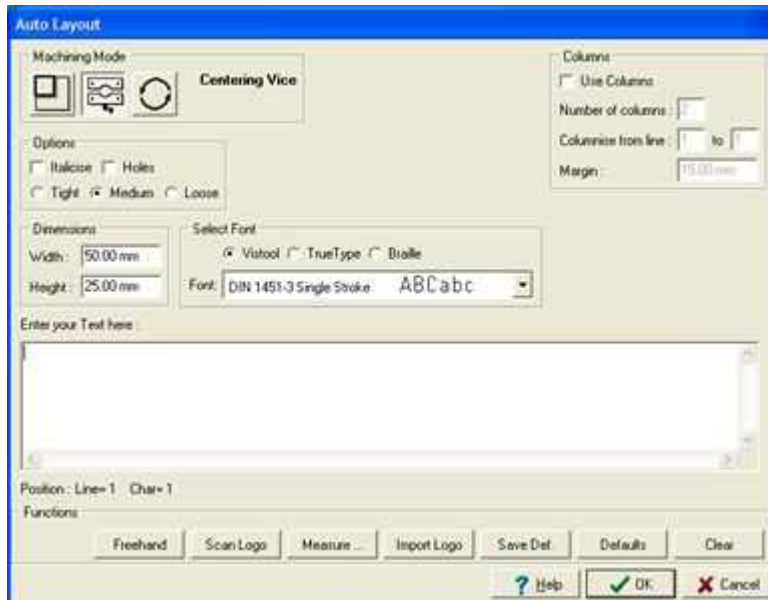

Figure 1 This Dialogue Box may vary slightly depending on the model and options installed on your machine.
You will now see the Opening Form Dialogue Box. Left click on "Auto Layout". The Auto Layout screen will be shown (see Figure 1).
- 1 As we are engraving a plastic laminated plate held within the centre vice, Left Click on the Centre Vice Icon in the Machine Mode Box, as Figure 1.